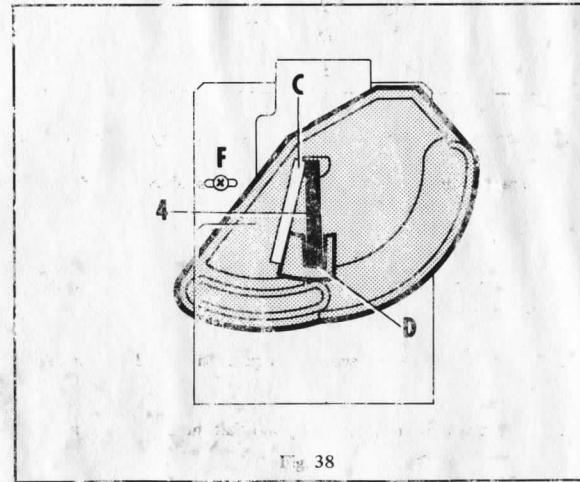

Fig. 38
4. Turn the lever "C" of the gas cock into vertical position "D" (Fig. 38).